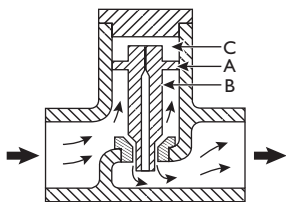

Fig. 44-4 Thermodynamic trap.
The *thermodynamic* trap uses the heat energy in hot condensate and steam to control its operation. Fig. 44-4 shows a thermodynamic trap in operation. This trap operates by the flashing action of hot condensate discharging into a chamber that is at a lower pressure than the discharging condensate. As cool condensate flows into the trap, pressure is exerted on the bottom side of the piston disc (A), thus lifting the piston and holding open the valve (B). When the condensate